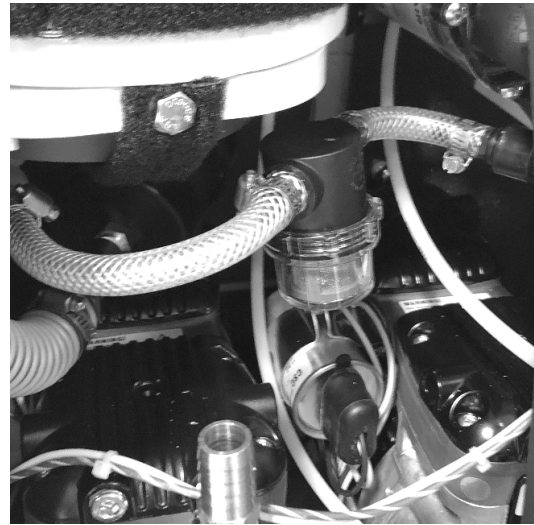

Fig. 7
8. To reinstall the tubing assembly, make sure the arrow on the bowl/filter assembly is facing toward the purge pump. Press each end of the tubing into the quick connect fittings on the sediment bowl and purge pump until a click is heard. Adjust the tubing assembly so there is a slight "S" bend in the tubing. (Fig 7)